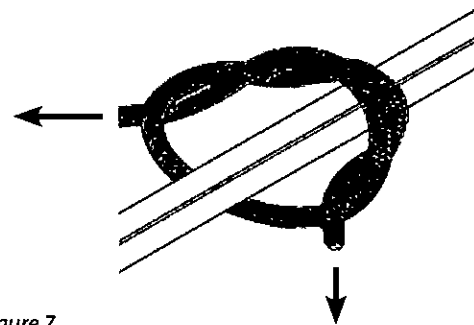

Figure 7
13. Tie one end of each of the provided 22' ropes to the platform side rails, just in front of the tree blade. Be sure your double knots are secure. **SEE FIGURE 7.**